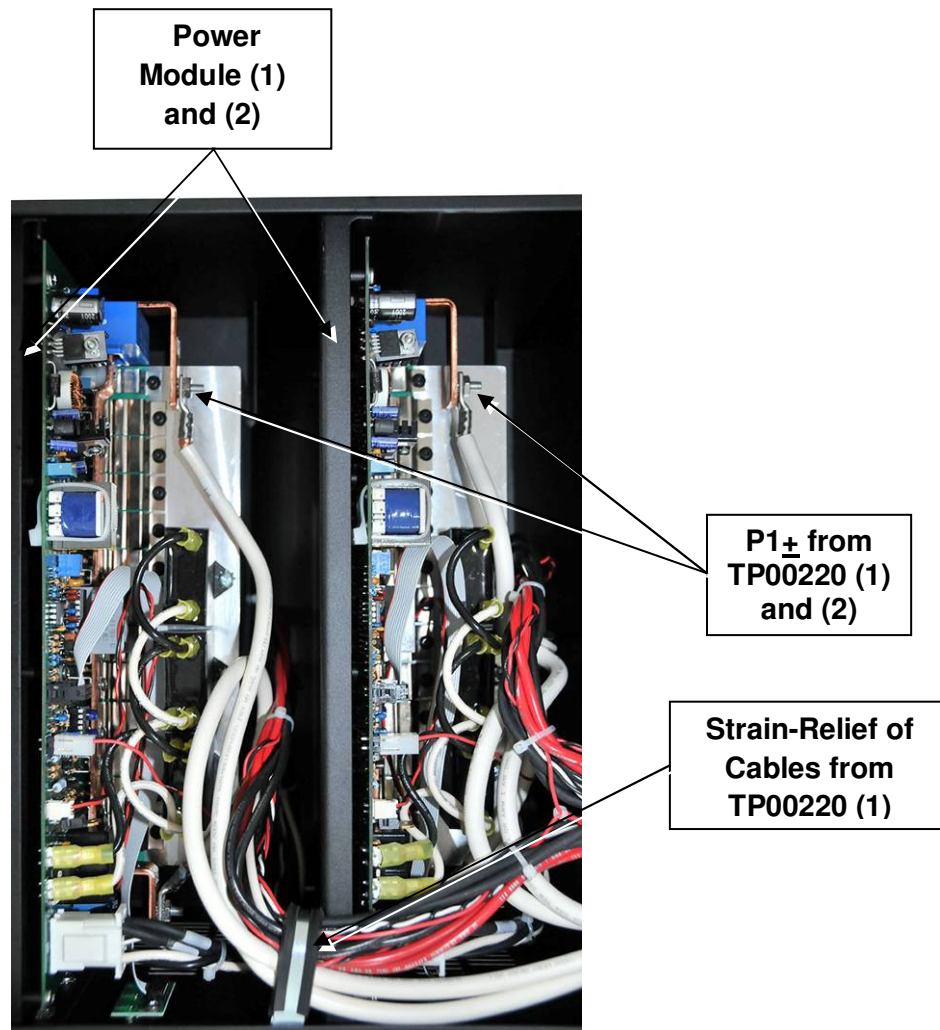

Figure 13: Inverter with Top Cover Removed
5.11 TOP VIEW w/COVER OFF - See Figure 13
5.12 FRONT ACCESS FOR POWER INVERTER MODULE REPLACEMENT: – See Figures 13 and 14